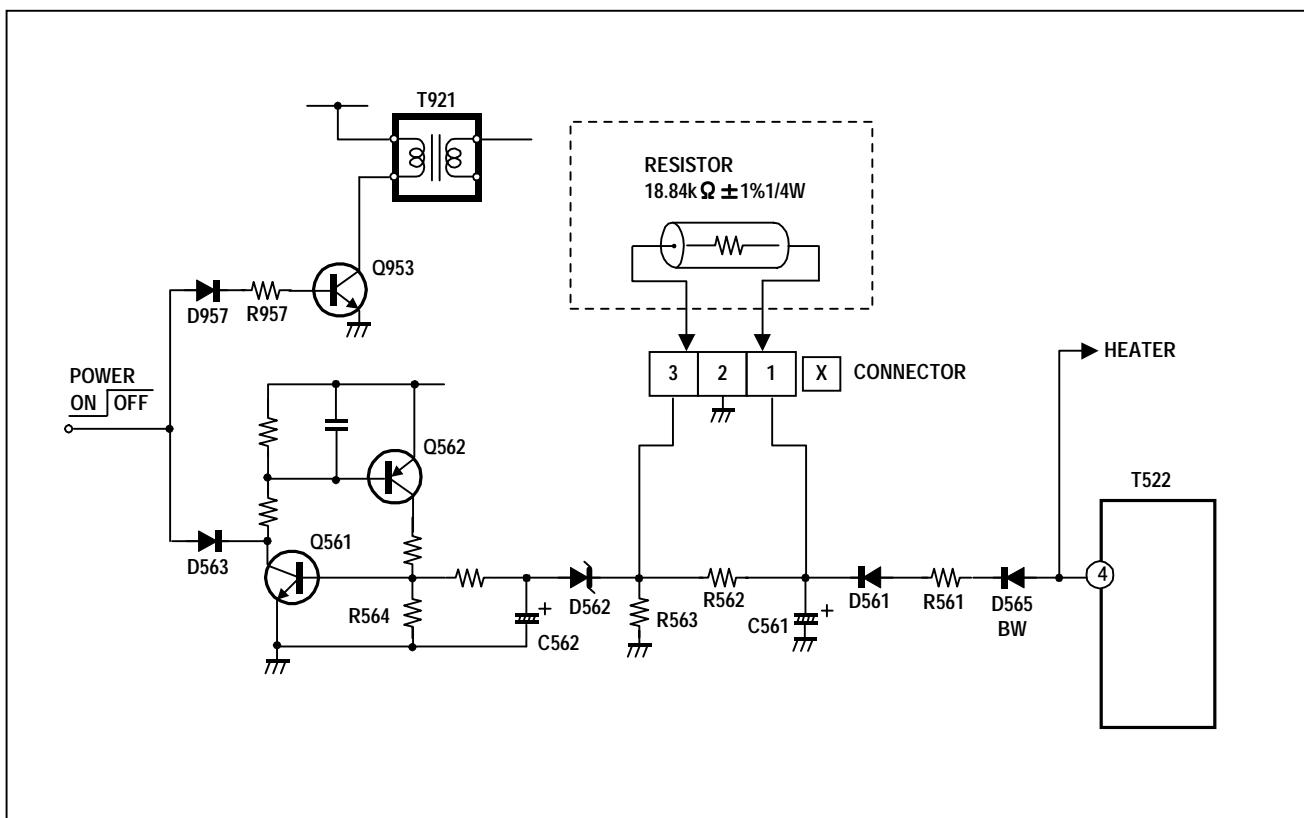

Fig. 1
After repairing the high voltage hold down circuit shown in Fig. 1.
- (1) Turn the power switch to on.
- (2) As shown in Fig. 1, set the resistor between **X** connector **1** and **3**.
- (3) Make sure that the screen picture disappears.
- (4) Temporarily unplug the power plug.
- (5) Remove the resistor replaced **X** connector **1** and **3**.
- (6) Again plug the power plug, make sure that the normal picture is displayed on the screen.